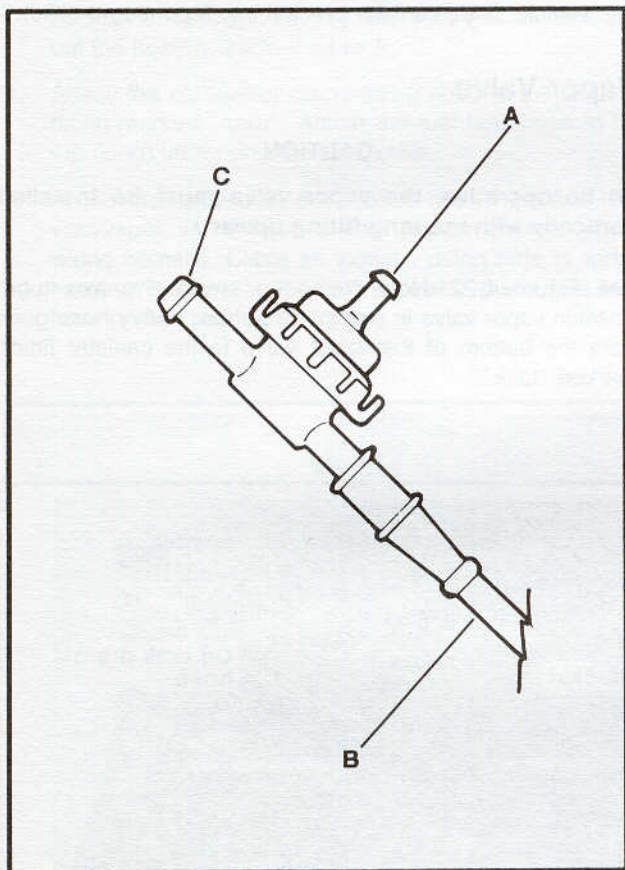

Figure 4-20. Vacuum Operated Valve (V.O.V.) - 1991
1. See Figure 4-20. Attach hose of Vacuum Pump to (A) on VOV.